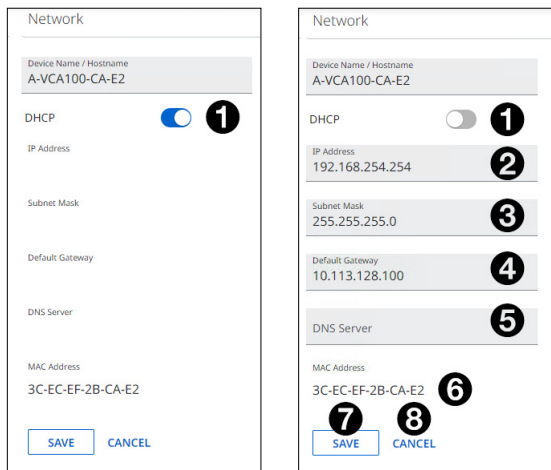

Figure 14. Edit Network Settings
If DHCP is set to **Off** (see figure 14, right, **1**), you can edit the IP Address (**2**), Subnet (**3**), Gateway (**4**), and DNS Server (**5**) values.
If DHCP is set to **On**, these values are not available for editing (see figure 14, left, **1**).
3. If required, edit the Device Name/Hostname (see figure 14). By default this is the name of the product followed by the last six hexadecimal integers from the MAC address.